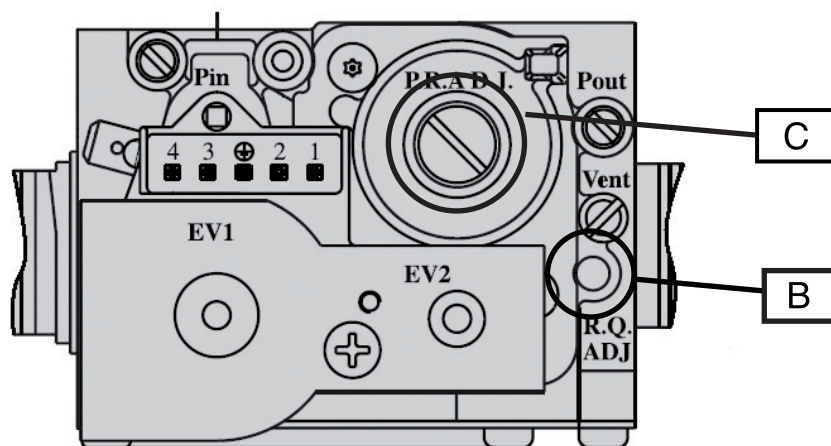

fig. 25
- adjust flue gas CO₂ by turning ratio adjuster **B** (fig. 25) and verify CO₂ value to be within the range stated in table 12;
- adjust flue gas CO₂ by turning offset adjuster **C** (fig. 25) and verify CO₂ value to be within the range stated in table 12;